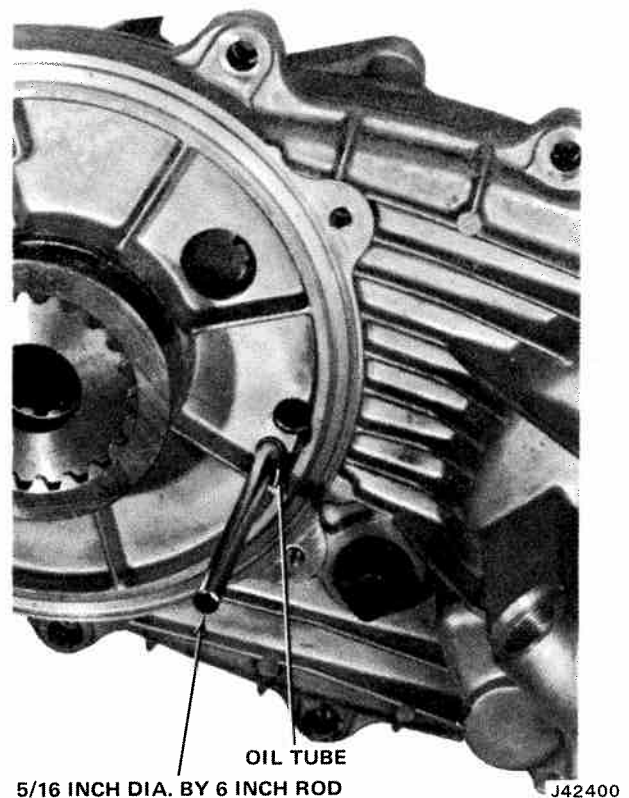

Fig. 8-47 Aligning Oil Tube for Cover Assembly Installation
- (1) Clean oil seal groove and install seal ring.
- (2) Install two 3/8-16 x 2 inch long pilot studs into transfer case (front housing).
- (3) Insert oil tube into case bore at front output shaft bearing boss. Insert a 6-inch length of 5/16 inch drill rod into tube. Rod will be used as a pilot to align tube with case cover (fig. 8-47).
- (4) Lift cover assembly and align tube pilot with hole in cover. Move assembly forward over pilot studs.
- (5) Move cover assembly forward to mesh with front output shaft and transmission output shaft.